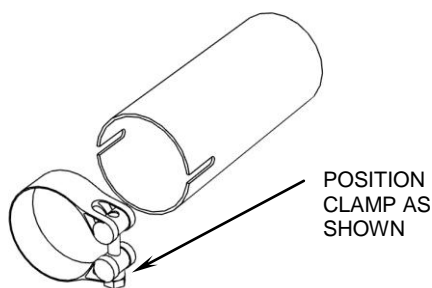

FIGURE 2
6. Place the supplied clamp 27-61msc onto the lower muffler slip collar then slide the rear headpipe / muffler assembly onto the front headpipe and into the rear exhaust port. Bolt it to the rear cylinder using the stock hardware. See Figure 2 for clamp orientation.
10. To install the front heatshield, first slide the rear portion of the heatshield over the muffler, continue to slowly slide it forward pushing the front of the shield gently into place between the frame and motor (Hint: Spread the hose clamps apart slightly to make it easier to slide them over the muffler assembly and head pipes). Make sure the muffler clamp don't interfere with the heatshields and are aligned as shown in Figure 2. Snug the heatshield clamps but **DO NOT TIGHTEN.**